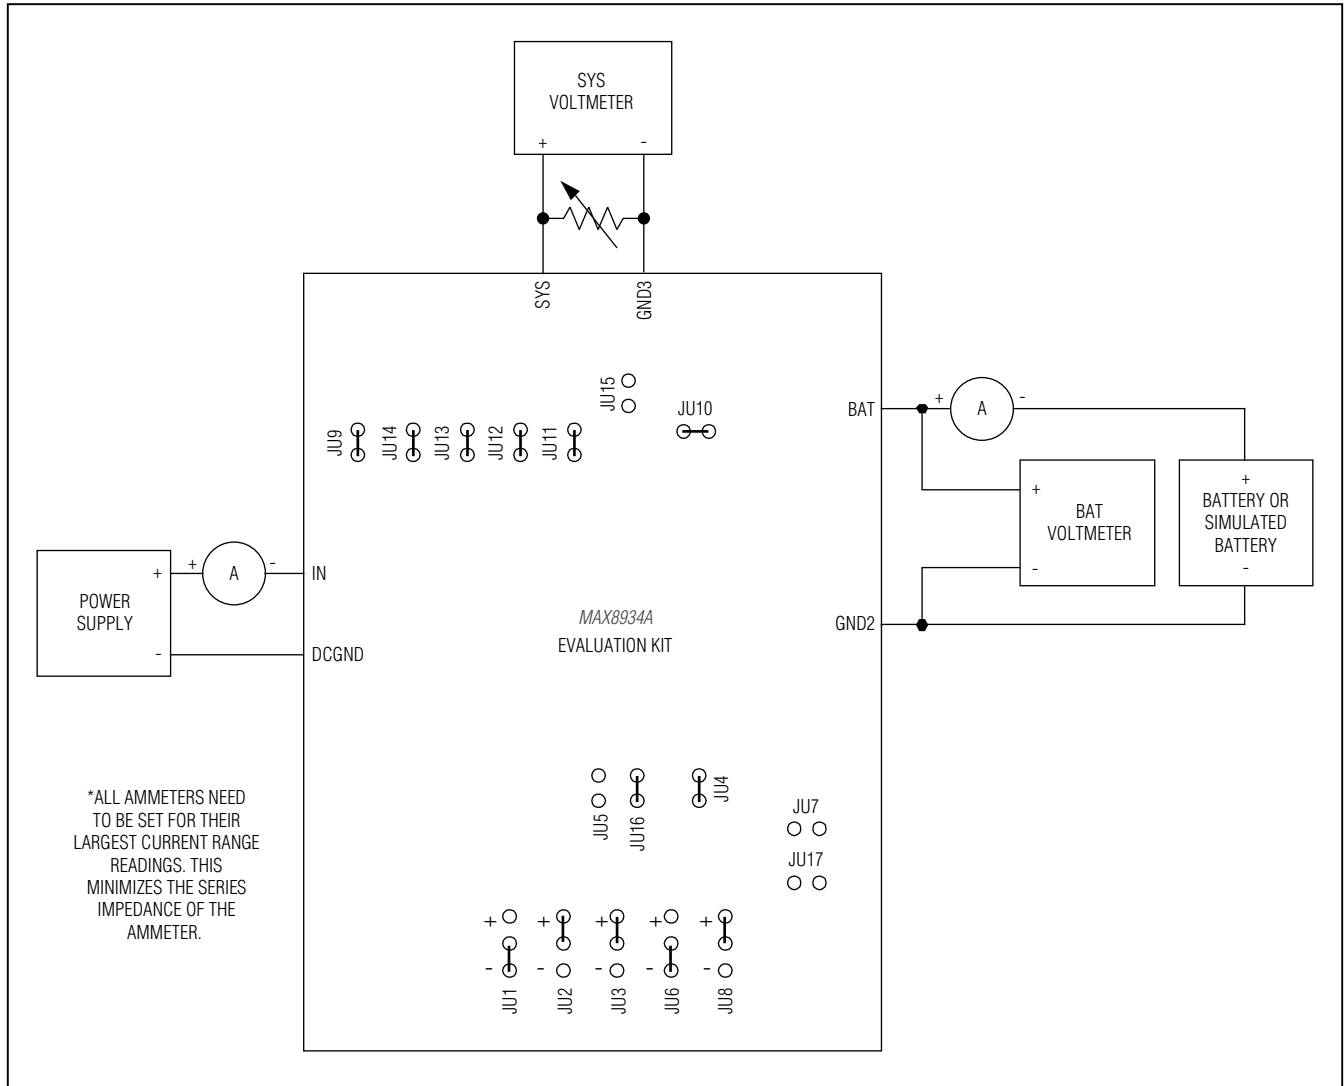

Figure 2. Connection Diagram and Default Jumper Connections
- 1) Ensure that the EV kit has the jumper settings shown in Figure 2 and Table 1.
- 4) Connect the EV kit to the power supply, battery, or preloaded power supply, and meters, as shown in Figure 2. Set the ammeters to their largest current range (lowest series impedance).